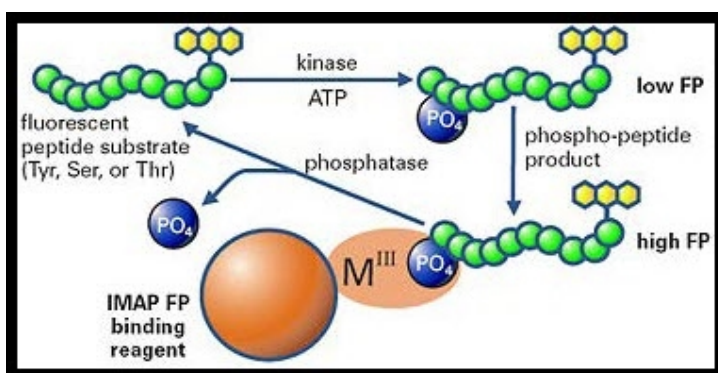
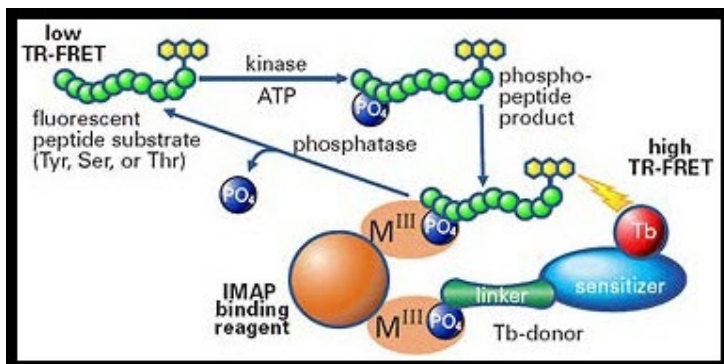

Figure 1: IMAP FP Diagram
Figure 2: IMAP TR-FRET diagram. Components are the same as for FP, except that a Terbium (Tb) donor is added to the IMAP Binding System.
IMAP technology is based on the specific, covalent-coordinate, high-affinity interaction of trivalent metal that contains nanoparticles with phosphogroups. These phosphogroups can be free, or linked to serines, threonines, tyrosines, or other molecules, making IMAP a generic platform to assess kinase, phosphatase and phosphodiesterase activity. This basic principle is used in the IMAP Binding System with both fluorescence polarization (FP) and time-resolved fluorescence resonance energy transfer (TR-FRET) as a read-out. In a microwell assay format, fluorescently labeled peptides are phosphorylated in a kinase reaction. Addition of the IMAP Binding System stops the kinase reaction and specifically binds the phosphorylated substrates. Phosphorylation and subsequent binding of the substrate to the beads can be detected either by FP (Figure 1) or TR-FRET (Figure 2).